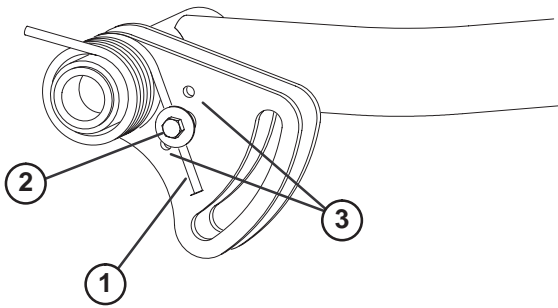

Figure 29
2. Remove the capscrew and locknut while relieving spring tension (Fig. 29).
3. Move spring bolt to desired location and install capscrew and locknut, while relieving spring tension (Fig. 29).